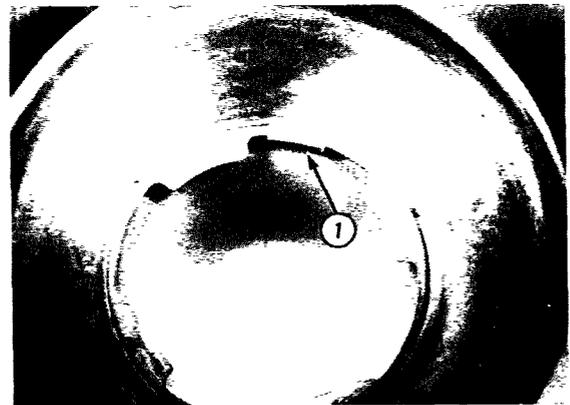

Fig. 3-7
- F. Turn the bowl bottom up and mark one of the four cutouts on the bottom of the bowl with a piece of masking tape (1, Fig. 3-7).